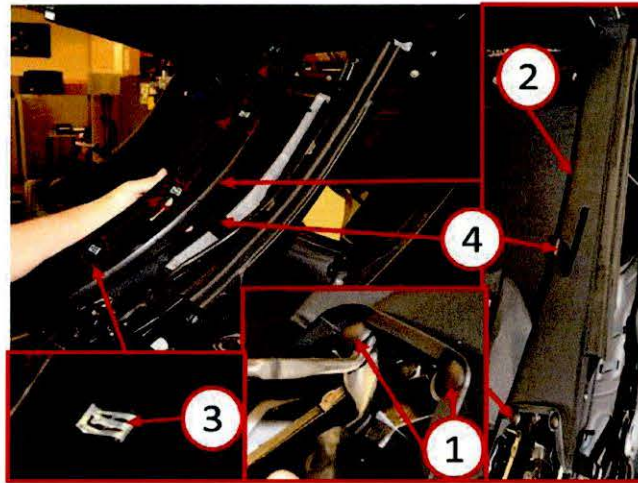

Fig. 3 Upper C-Pillar Trim Removal
4. Remove the upper C-pillar trim (2) from both the left and right side of the hard top assembly to gain access to the down capture hook assembly (4) (**Fig. 3**).